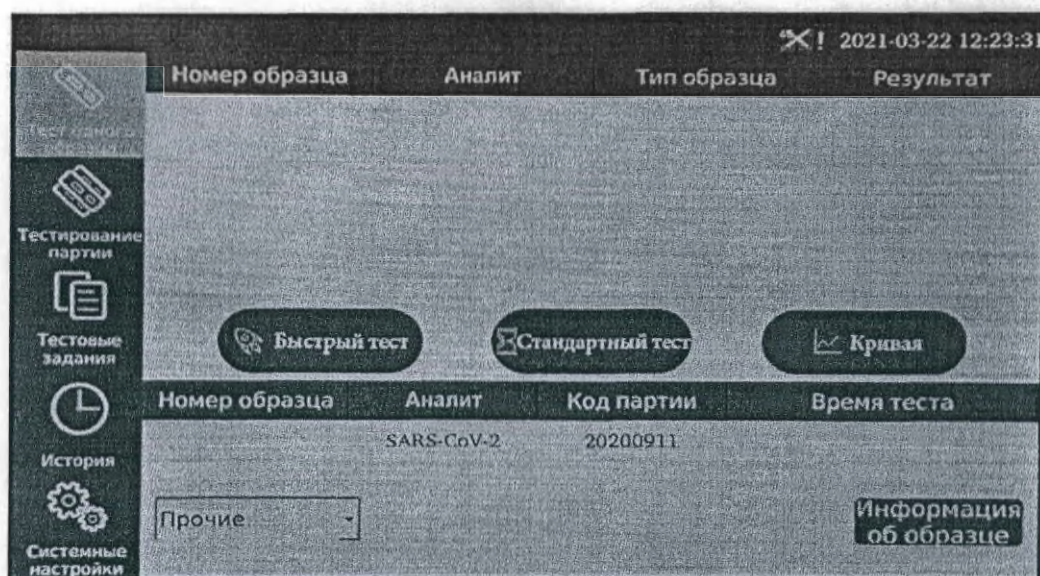

Figure 16
Step 1: Install the Analyzer correctly and turn it on (Figure 16).